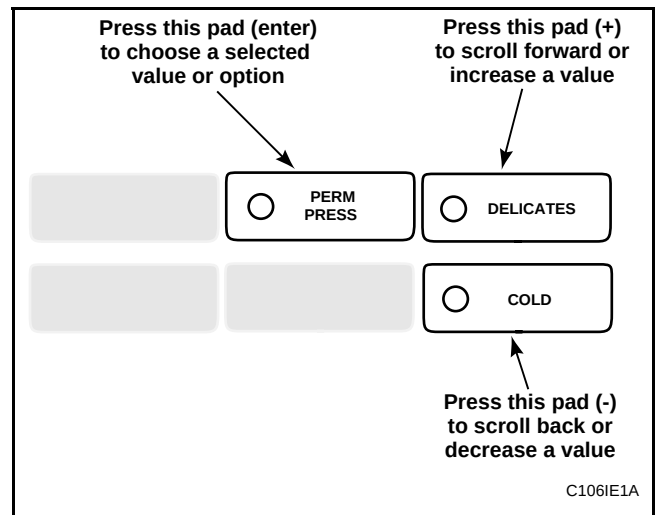

Figure 9
5. Press the DELICATES (+) or the COLD (–) keypad to increase or decrease the current number of coins displayed in the VFD to the desired number of coins. See **Figure 9**.